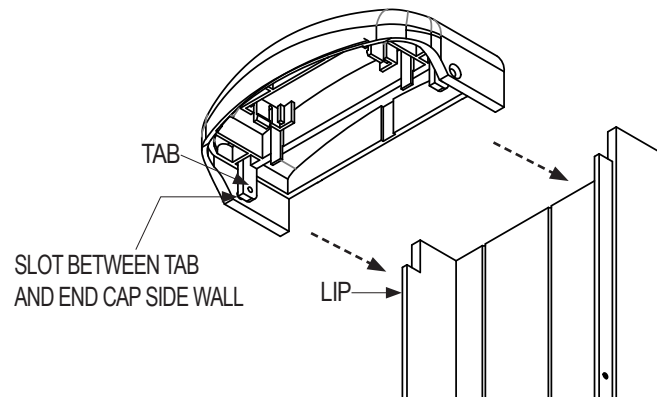

Figure 9.5 End Cap Alignment
16. Match and insert the Back Box Lips into the Slots between the Endcap Tabs and the Endcap Side Walls. (Figure 9.5)